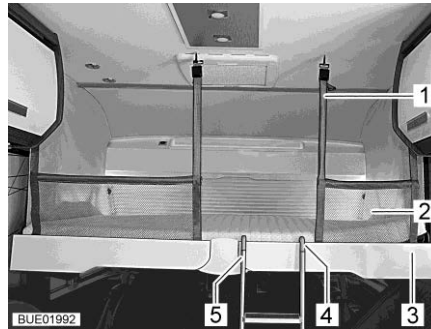

Fig. 121 Pull-down bed complete with applied safety net
Safety net If fitted, the safety net (Fig. 121,2) and the retaining belts are located beneath the mattress of the pull-down bed. Only use the safety net if persons are already in the pull-down bed.
Setting up: ■ Attach retaining belts (Fig. 121,1) to the hooks on the ceiling.
- Hook step ladder (Fig. 121,5) to the pull-down bed by attaching the two hooks (Fig. 121,4) in the holding bar (Fig. 121,3).